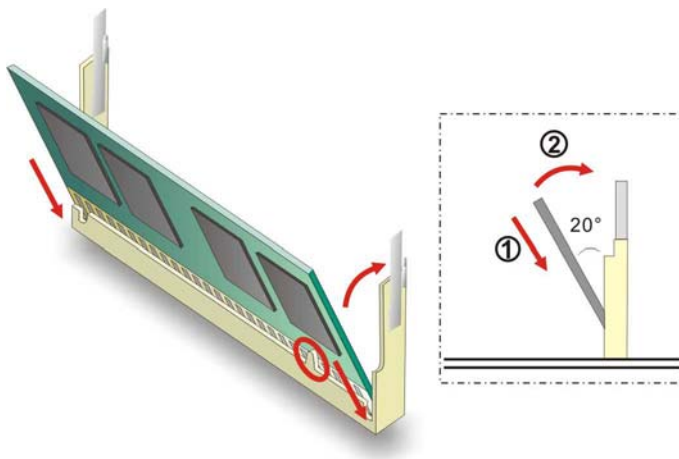

Figure 5-1: SO-DIMM Installation
Step 3: Insert the SO-DIMM. Push the SO-DIMM chip into the socket at an angle. (See **Figure 5-1**)
Step 4: Open the SO-DIMM socket arms. Gently pull the arms of the SO-DIMM socket out and push the rear of the SO-DIMM down. (See **Figure 5-1**)